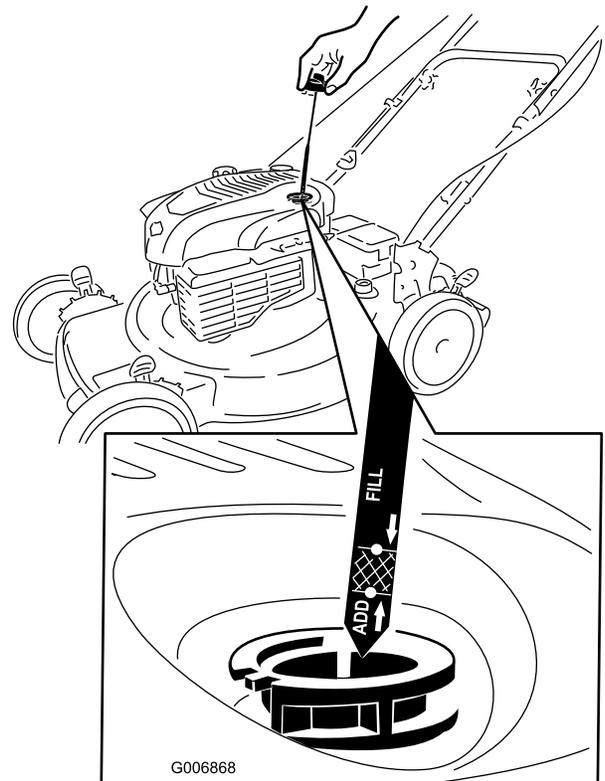

Figure 6
1. Remove the dipstick (Figure 6).
2. **Slowly** pour oil into the oil fill tube until the oil level reaches the **Full** line on the dipstick (Figure 6). **Do not overfill.** (Max. fill: 20 oz. (0.59 l), type: SAE